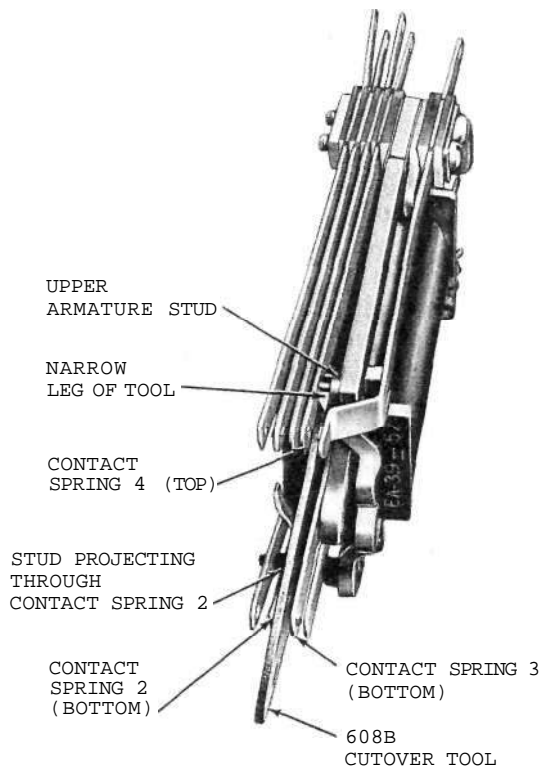

Fig. 35 — Blocking EA39 Relay for Cutover Purposes
(3) EA39 Relay: Fig. 35—Using the 608B